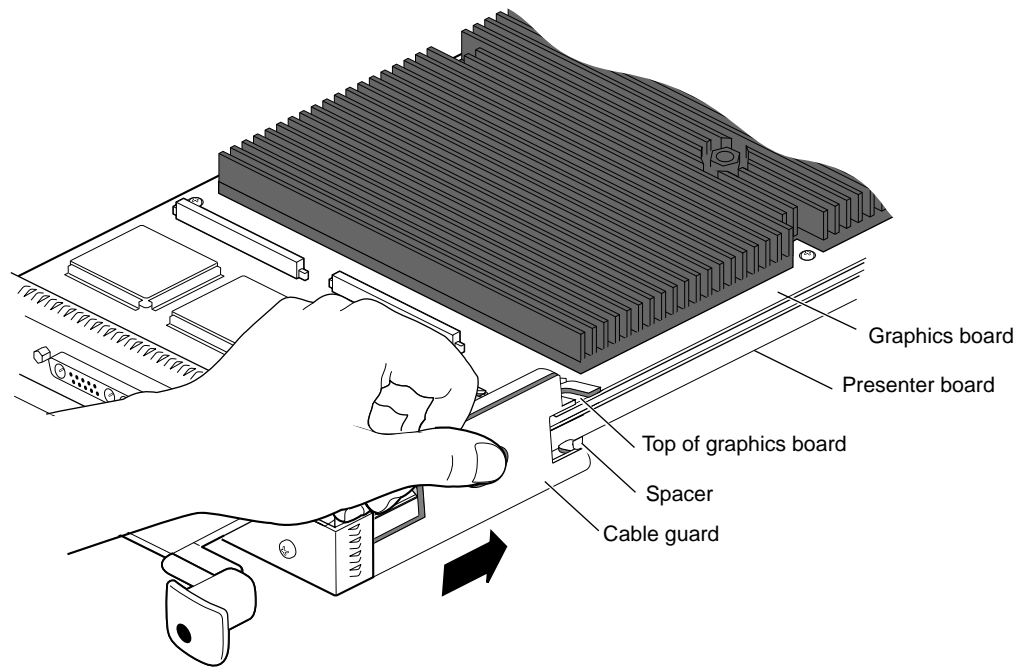

Figure 1-18 Sliding the Cable Guard Behind the Standoff
5. Press down on the center hole of the cable guard and slide it backward until the bottom half-hook on the cable guard rests behind the spacer that you installed earlier on the Presenter board. See Figure 1-18.